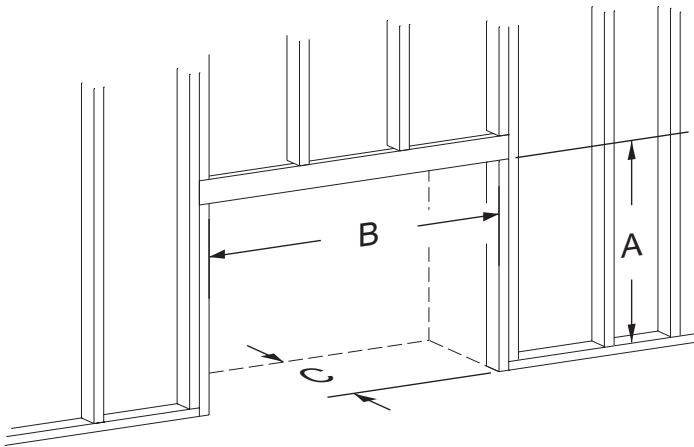

Figure 30 - Rough Opening for Installing in Wall
4. On the top and bottom of each side are side framing standoffs. Use pliers to bend the side framing standoff 90 degrees away from the cabinet. See Figure 30.
- Use dimensions shown in Figure 30 for a conventional rough opening.